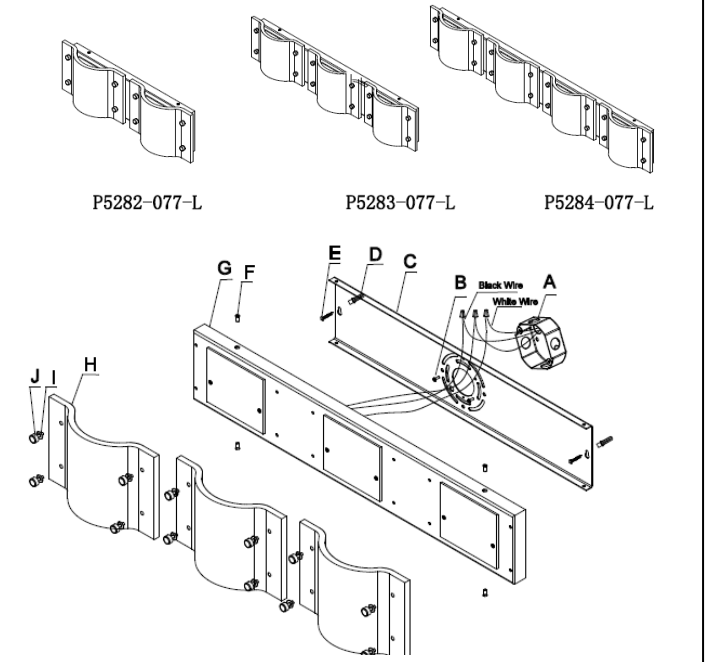

Fig.2
## CONNECTING THE WIRES (FIG. 2)
7. At this point, connect the electrical wires as shown in Fig. 2, making sure that all wire connectors are secured. If your outlet has a ground wire (green or bare copper), connect the fixtures ground wire to it. Otherwise, connect the fixture ground wire directly to the back plate (C) using the green screw provided. After wires are connected, tuck them carefully inside the junction box.